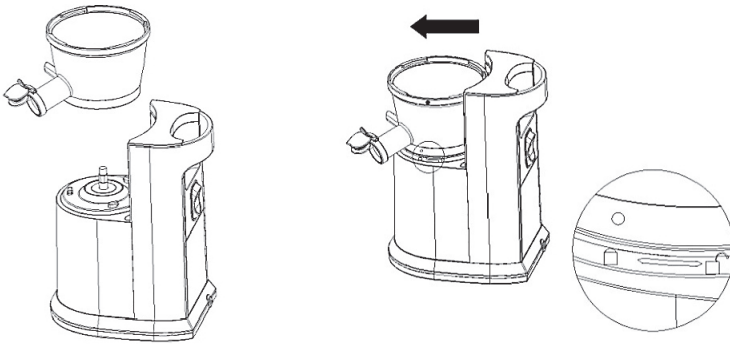

Fig. 1
1. Assemble the bowl to the base. (Figure 1)